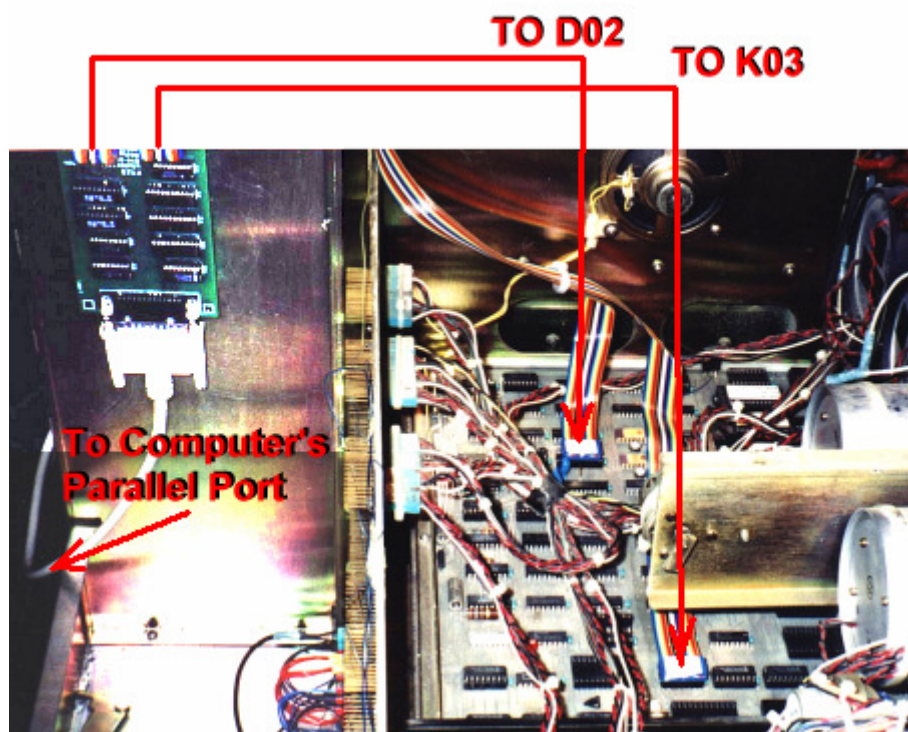

Figure 3.6
Step 11: Select a location within reach of the ribbon cables. Refer to Figure 3.6 for suggested location. Ensure that the location chosen does not restrict access for removal of any of the FTD's 4 cards and components.
Step 14: Verify the installation making sure that all connections are solid and that the cabling does not interfere with anything. Tie wrap the cables if necessary. The completed installation is shown in Figure 3.6 below.